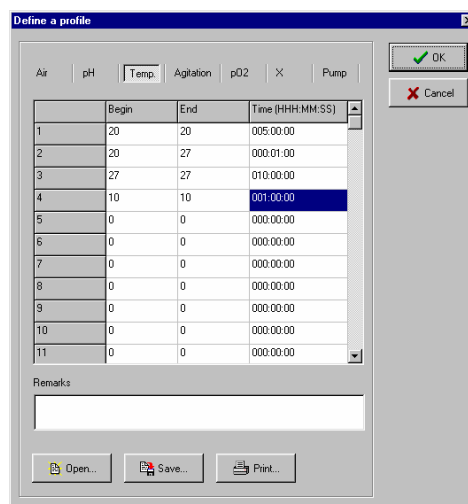

Figure 3
- Profiles on all the set points like temperature, pH, pO₂, air flow rate, agitation, parameter X or feed with a peristaltic pump (figure 3)